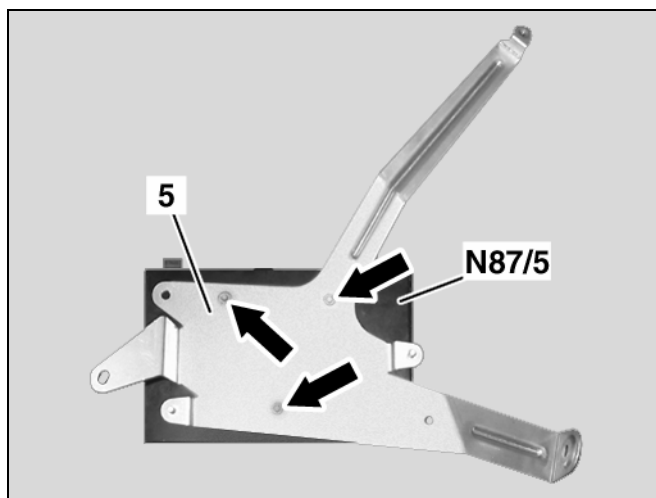

Figure 7
1. Mount the SDARS control module (N87/5, Figure 7) to the bracket (5, Figure 7) with the three kit-included M5 hex nuts (Arrows, Figure 7).
**Note:** Position the SDARS control module so the connector jacks face the longest arm of the bracket (Figure 7).